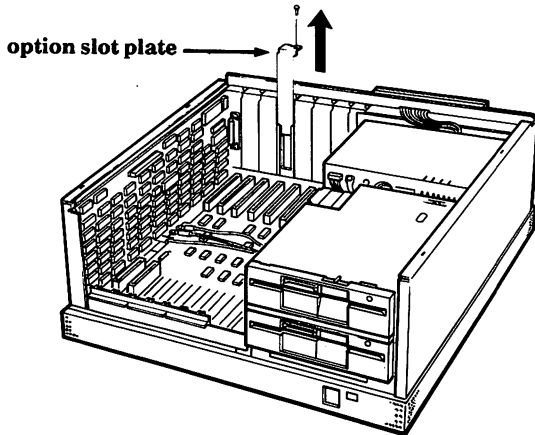

Figure 2-8. Location for the XC 24 Network Access Board
9. Remove the screw and the option slot plate and set them aside. See Fig. 2-8.